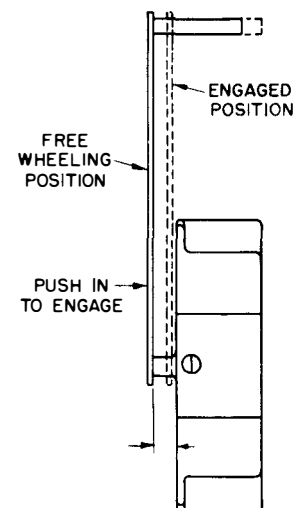

Fig. 10
- 3 - With handle arm in free-wheeling position, locate handle arm in proper position for operation. Switch closed, handle arm up as shown in Fig. 10. Switch open handle arm down. Push in handle arm as shown in Fig. 10 to engaged position. While holding handle arm in engaged position, rotate handle arm 180° to operate. After rotating 180° handle arm will return to free-wheeling position. If mechanism is equipped with latch, see paragraph 5.
- 5 - Latched mechanism with or without motor adds two additional switch conditions. (Spring charged to close, switch open and spring charged to open, switch closed. Check worded and color-coded position indicator Fig. 1.) To lock switch open, note spring must be discharged. With switch open spring charged, place handle in up position push in handle arm as shown in Fig. 10 to engaged position. While holding handle arm in engaged position, rotate handle arm 180° to discharge spring.